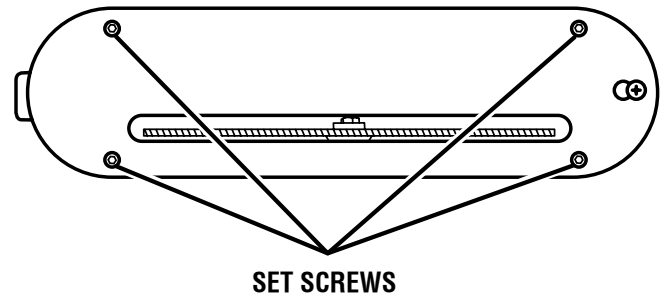

Fig. 25
See Figure 25.
- Using a 3/32 hex key, adjust the four set screws as shown in figure 25.